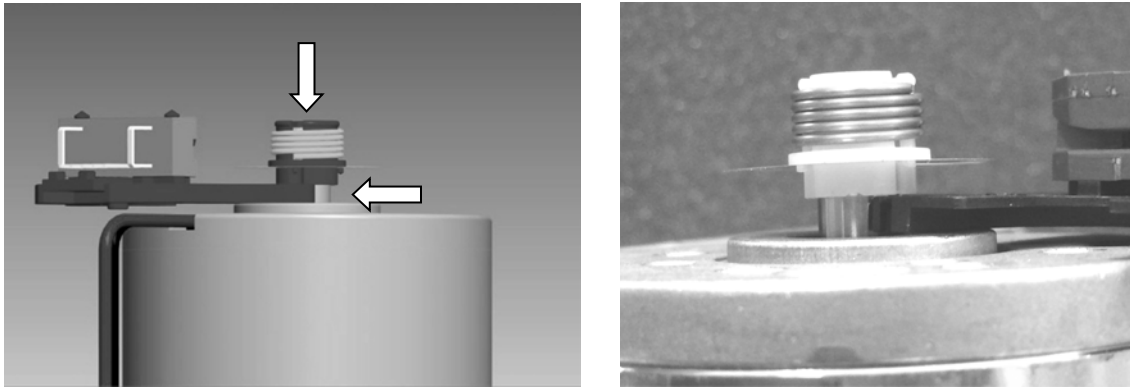

Figure 6
13. Slide the Decode Wheel on the motor shaft until it touches the Base Plate “leg” (Figure 6).